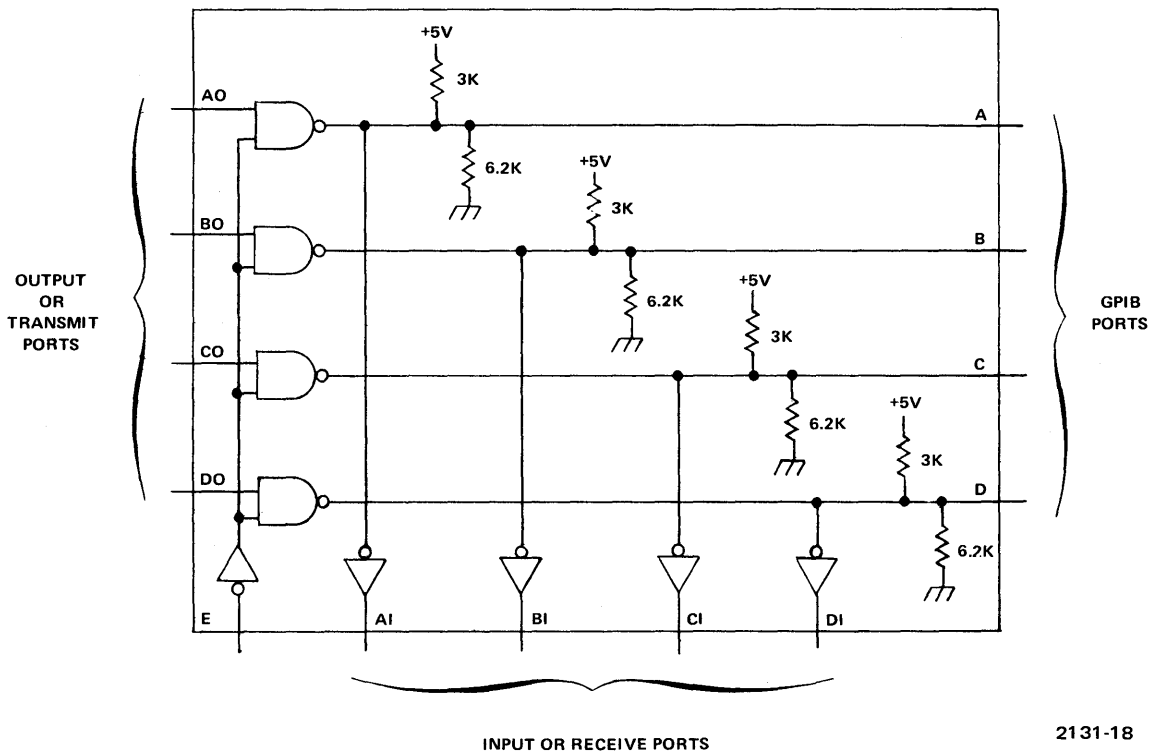

Figure 6-16. GPIB Transceiver Block.
Bus Handshake Transceiver. The Bus Handshake Transceiver provides interfacing to the three GPIB handshake lines DAV, NRFD and NDAC, and to one of the management bus lines, EOI. The transceiver's internal schematic is illustrated in Figure 6-16. Each input or receive port (such as A1) at all times follows the signal presented to the corresponding GPIB port (A). An output or transmit port (such as A0) drives the corresponding GPIB line only if the transceiver is enabled with a low. The GPIB ports are active-low to conform with the GPIB standard, while the receive ports and transmit ports are active-high.
The head loading is signalled by TRIGGER HEAD LOAD from the Control Latch. This signal is sent to the Head Load block (Figure 6-16), a one-shot timing circuit. When the one-shot receives the trigger signal, it sends its output active low for 1/2 sec (HEAD LOAD-0). This timer is reset by the same STEP signal mentioned earlier. Also a complimentary output, HEAD LOAD-1, is sent to the disc status register, so the MPU knows when the head is loaded onto the flexible disc.